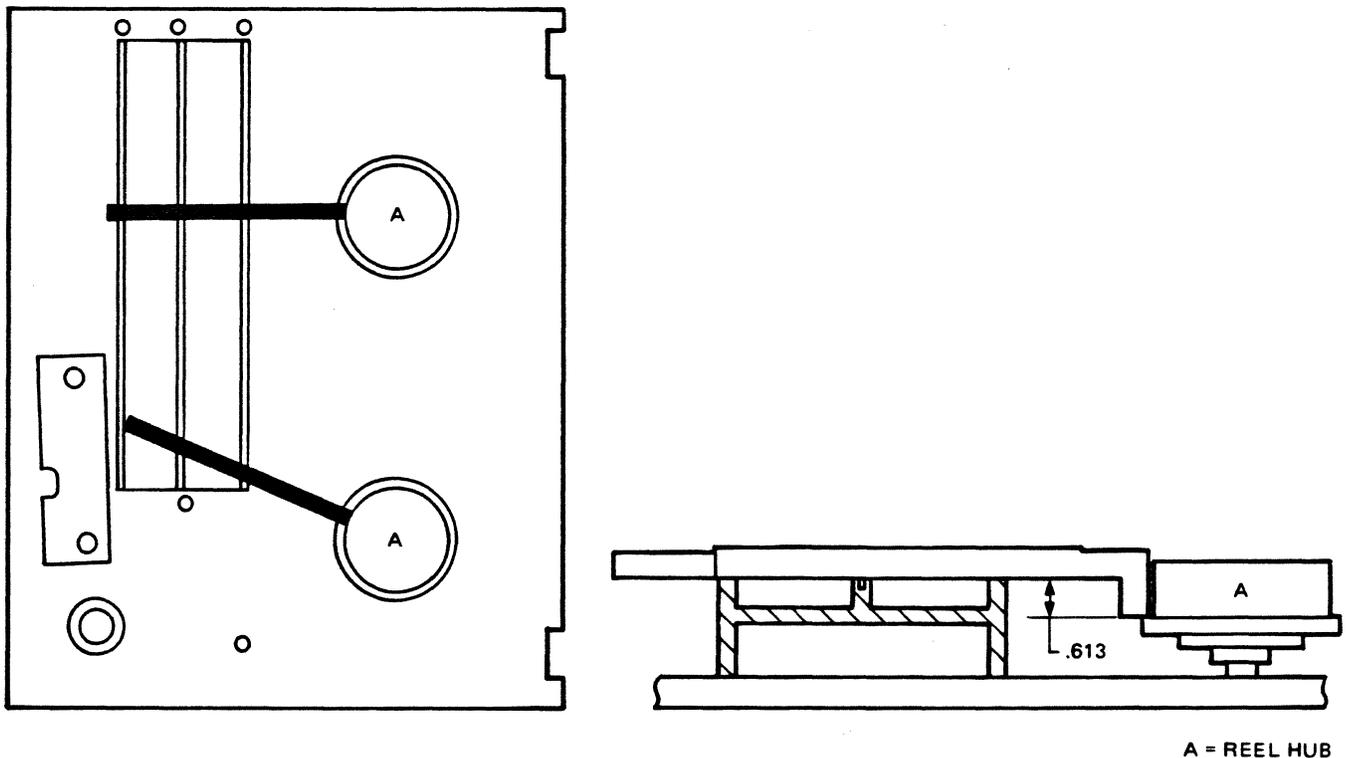

Figure 5-11. Reel Hub Height Alignment Tool Positioning
- d. Check each hub as shown in figure 5-11, which indicates the two positions of the alignment tools. The L-shaped edge of the alignment tool and the edges of the reel hub should just touch as the hub is rotated.